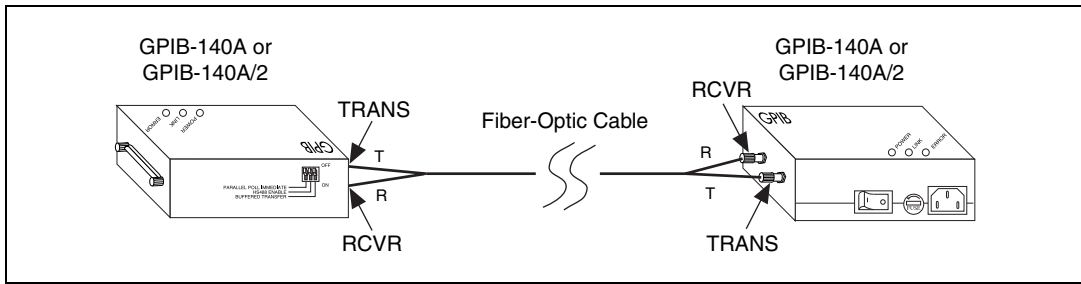

Figure 2-2. Connecting the Fiber-Optic Cable to Both GPIB Extenders
- a. As shown in Figure 2-2, align the connector marked T (transmit) with the connector marked TRANS on the side panel of the GPIB extender. Align the connector marked R (receive) with the connector marked RCVR on the side panel of the GPIB extender.